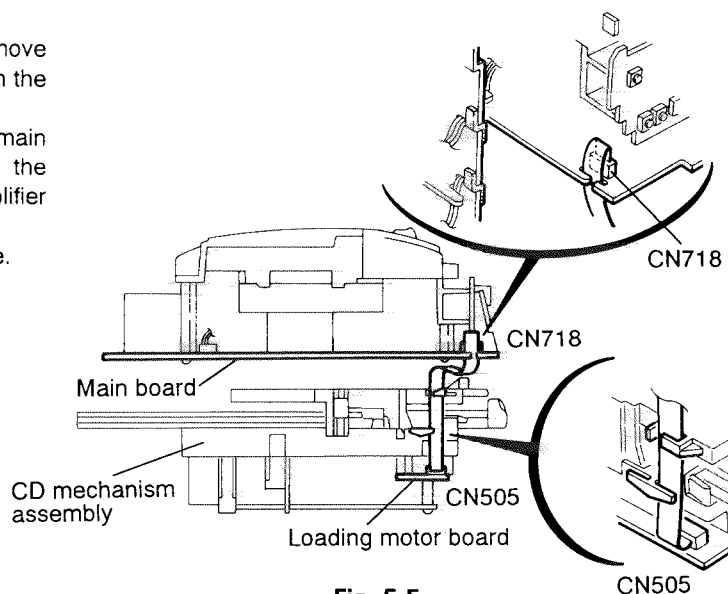

Fig. 5-5
■ Removing the CD mechanism assembly (See Figs. 5-5 and 5-6)
1. From the connector CN718 on the main board, remove the card wire outgoing from the connector CN505 on the loading motor board (See Fig. 5-5).